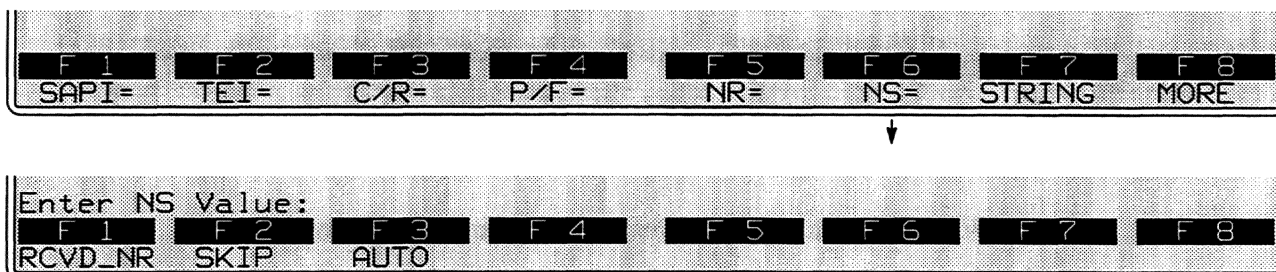

Figure 43-25 The N(S) field may be specified in a SEND INFO action.
11. *N(S)*. *N(S)* fields are transmitted in INFO frames only. (See the frame-field diagrams in Figure 43-4.) Entries for *N(S)* in *SEND* INFO actions are optional. The softkeys that open below NS= are illustrated in Figure 43-25.
Press the SEND softkey followed by the softkey for a frame type. Add any necessary or desired SEND options for the particular frame type. Then press the STRING softkey (labeled F7 in Figure 43-25).